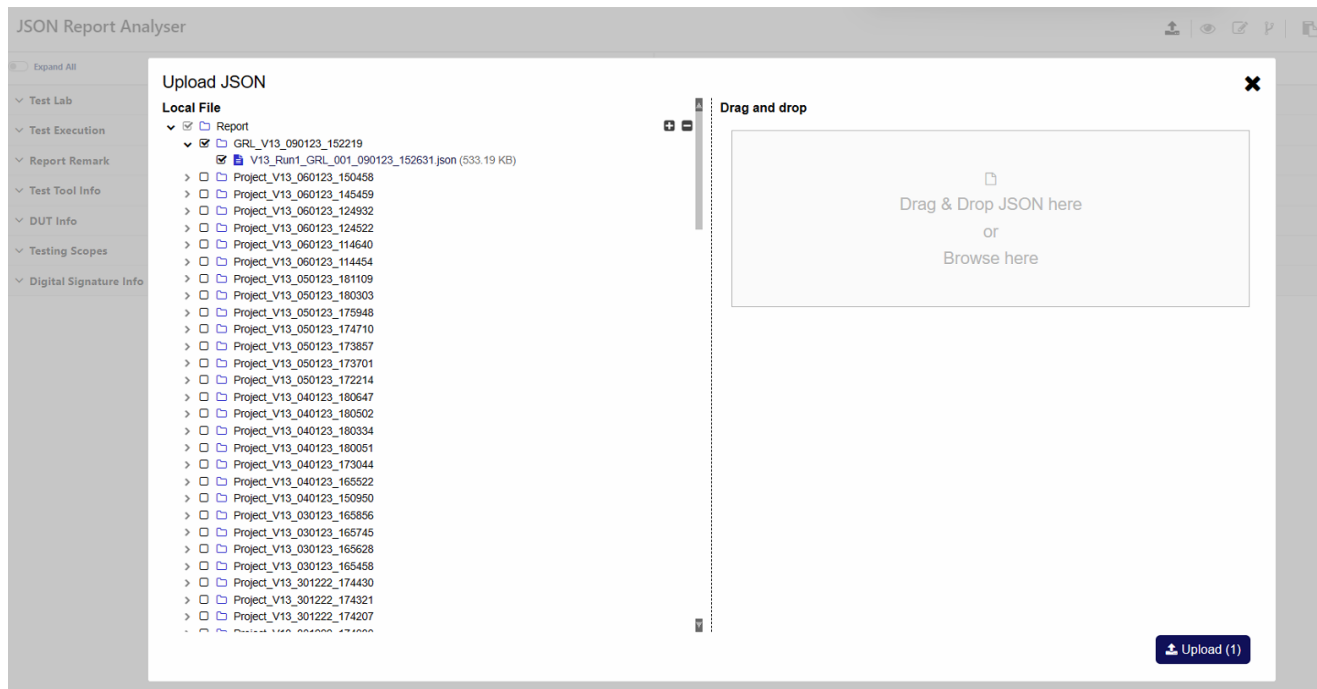

FIGURE 8.81: SELECT JSON FILES TO UPLOAD
2. The following pop-up window will appear as shown in Figure 8.81. The “Local File” panel on the left will show the list of all JSON report files that have been generated from previous test runs and stored in the default file location. The user can select one or more of these files and click on the **Upload** button on the bottom right of the window.